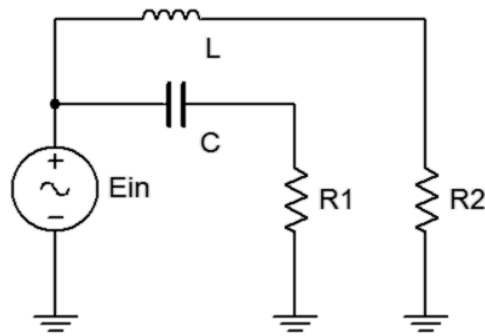

Figure 9.1
1. The circuit of Figure 9.1 can be thought of as a pair of frequency dependent voltage dividers.  $X_L$  increases with frequency, thus attenuating high frequency signals reaching R2. Similarly,  $X_C$  increases with a decrease in frequency, thus attenuating low frequency signals reaching R1. (R2 takes the place of the woofer while R1 takes the place of the tweeter). The crossover frequency is the frequency where  $R1=X_C$  and  $R2=X_L$  (normally the same frequency for both). Using  $C=.25 \mu\text{F}$ ,  $L=100 \text{ mH}$ , and  $R1=R2=620 \Omega$ , determine the crossover frequencies and record in Table 9.1.
3. Build the circuit of figure 9.1 using  $R1=R2=620 \Omega$ ,  $L= 100 \text{ mH}$ , and  $C=.25 \mu\text{F}$ . Place one probe across the generator and another across output one (R1). Set the generator to a 2 V p-p sine wave at 50 Hz. Make sure that the *Bandwidth Limit* of the oscilloscope is engaged for both channels. This will reduce the signal noise and make for more accurate readings.